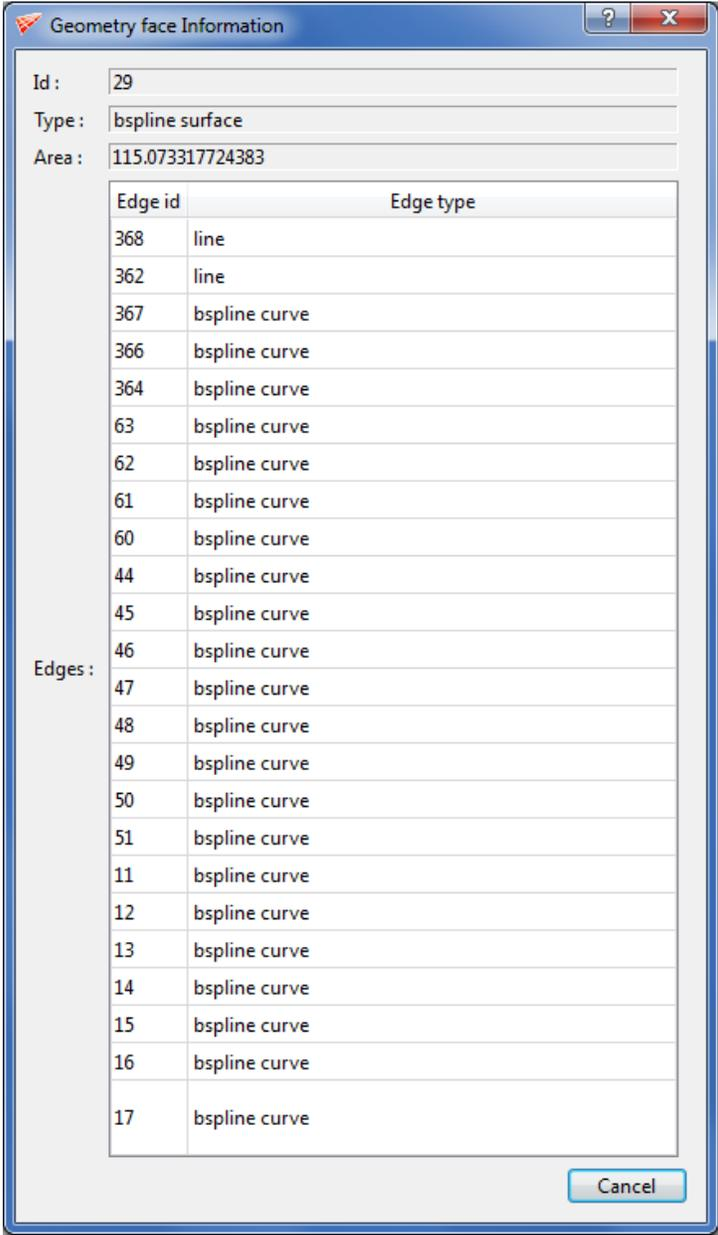

Figure 7.15: Face info
*Face info* displays the information of the selected face as shown in Figure 7.15.